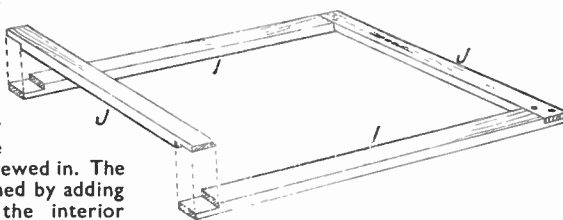

Fig. 4—How the frame for the lid is made
As the frame for the lid must be sturdily built up, the halving joint shown in Fig. 4 should be adopted for the corners. Prepare four rails, two 20 $\frac{3}{4}$ ins. long and two 15 $\frac{3}{4}$ ins. long and all 1 $\frac{1}{2}$ ins. wide by $\frac{3}{8}$ in. thick, as (I) and (J) Fig. 4. Next mark across the width of each rail at the ends of the pieces, and note care-
fully where the halvings occur. By this is meant the upright rails (J) at the sides of the case run right through, while the top and lower rails are lapped underneath. Keep carefully to this arrangement throughout, and note the finished joints at the right of Fig. 4.